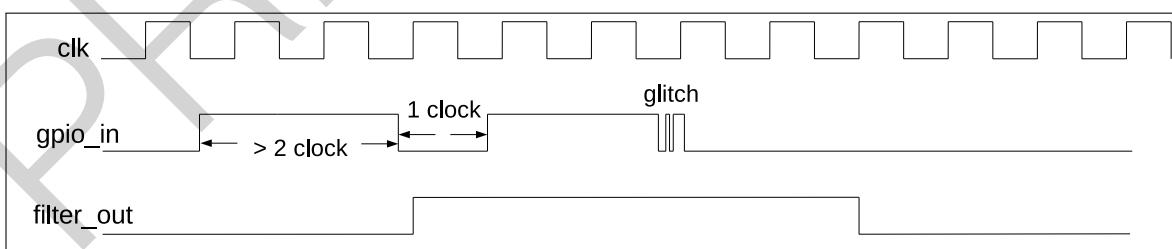

Figure 3-4. Filter Timing of GPIO Input Signals
- Optionally enable the filter for pin input signals by setting the register `IO_MUX_FILTER_EN`. Only the signals with a valid width of more than two APB clock cycles can be sampled, see Figure 3-4.